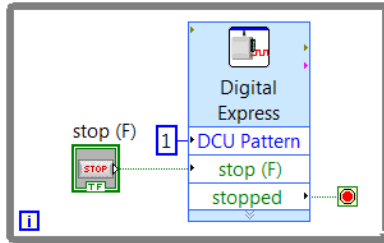
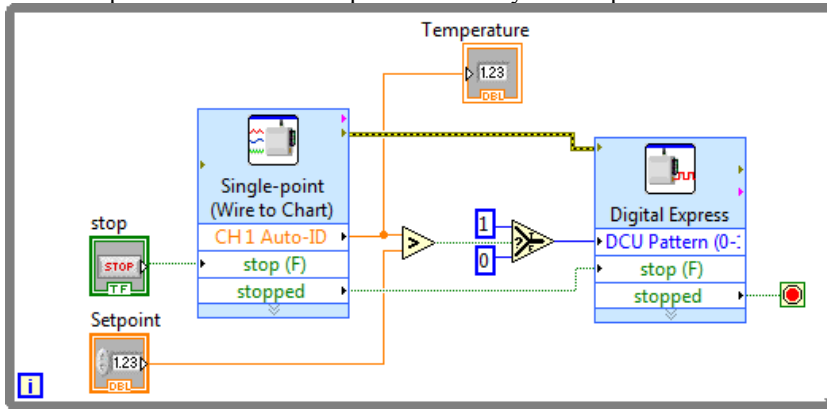

Figure 8 LabVIEW VI to control a DCU line
Figure 9 LabVIEW VI to control the DCU with a sensor reading
The DCU Pattern is an input terminal on the Digital Express VI and can be programmed as a constant, as shown in Figure 8, or as a front-panel control, as shown in Figure 9, depending upon your application.
Alternatively, the DCU Pattern can be controlled from sensors connected to the system to create the same examples as described in the *Logger Pro* Examples section of this manual. A simple example program for a temperature monitoring system is shown in Figure 9. In this program, an Analog Express VI is used to collect data from a temperature sensor connected to the interface. DCU line D1 will turn on when the temperature exceeds a set point defined by a front-panel control.
It is important when using the Digital Express VI to control a DCU output line that the “stop (F)” and “stopped” terminals are wired as shown in Figures 8 and 9. This ensures that all lines are turned off when program execution ends. Avoid using the Abort Execution button when running your program as it will most likely leave one or more DCU lines on.